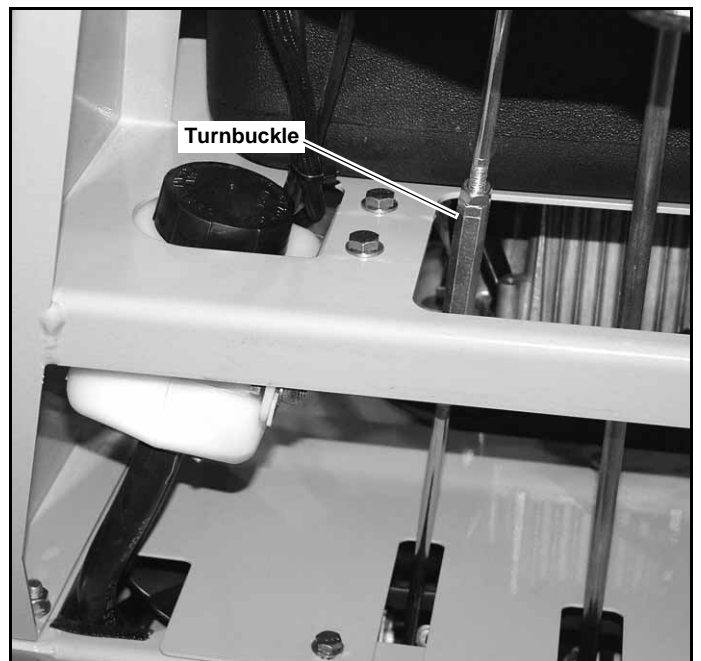

Figure 4-2
5. If rear wheels rotate forward or rearward, loosen the locking hardware on the turnbuckle assembly. Figure 4-2
6. Tighten or loosen the turnbuckle until rear wheel comes to a stop. Figure 4-2